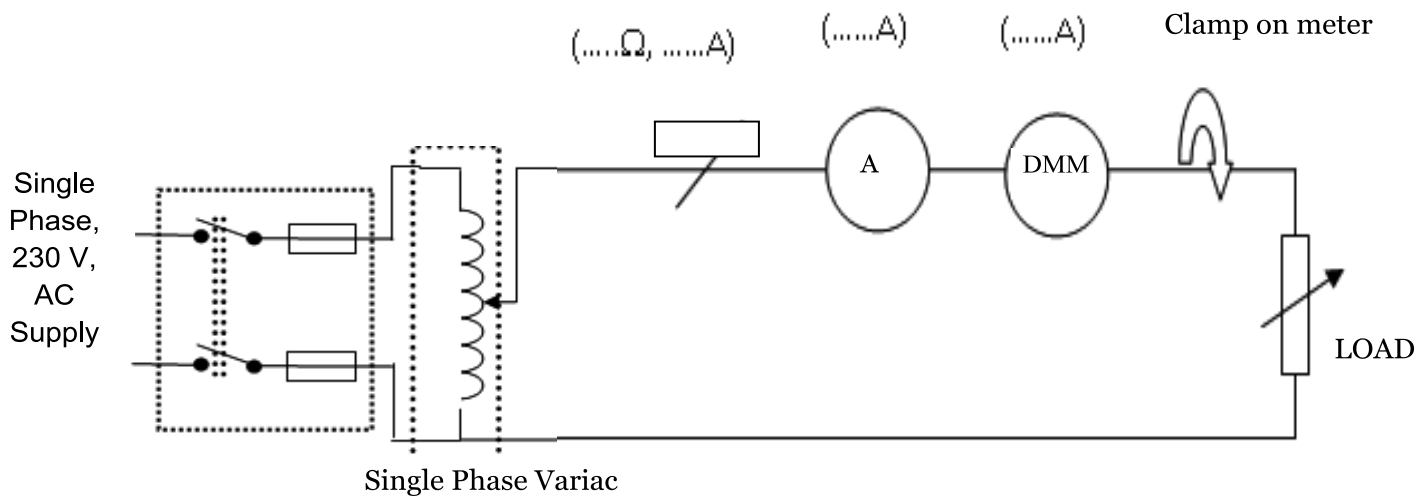

Figure 2: Measurement of AC current
1. Connect a circuit as shown in Figure 2 for measurement of AC current.